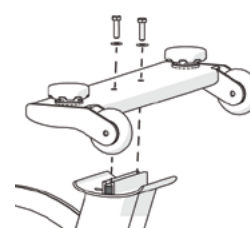

Figure 4
3. Attach the front stabilizer to the frame using two bolts 1 and two flat washers 2 (Figure 4) Using a hex key 5, tighten to 15.6 ft-lb (21.2 N-m).